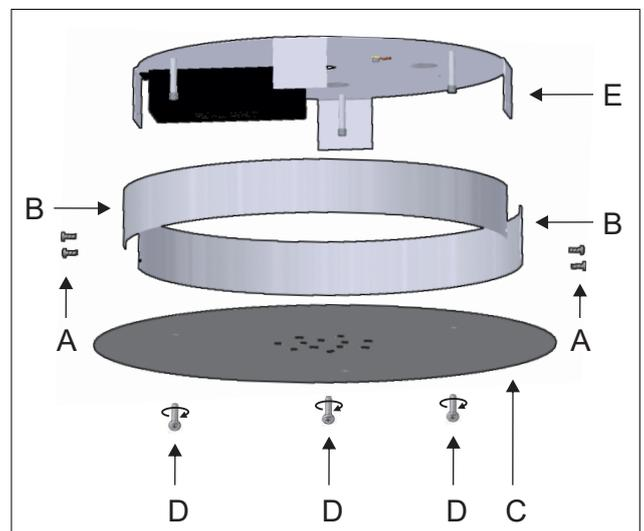

Figure 1
1 - Unscrew the four side screws (A) to release the decorative rims (B) located at the top of the canopy (C). Then unscrew the three screws (D) located at the inferior part of the canopy in order to separate it from the mounting bracket (E). Figure 1